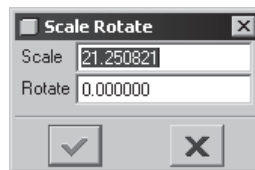

Figure 1-19 The **Scale Rotate** dialog box
2. For inserting a sketch from the **Polygons** tab, double-click on the sketch and click anywhere in the drawing area; the **Scale Rotate** dialog box will be displayed, as shown in Figure 1-19.